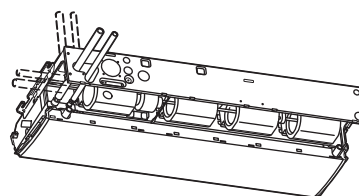

Fig. 3-19
- The positions of the refrigerant tubing connections are shown in the figure below. (The tubing can be routed in 3 directions.) (Fig. 3-19)
- * If the drain hose is routed through the left side, refer to Fig. 3-19, and follow the procedure above to install the hose. Reattach the rubber stopper removed earlier onto the right side.